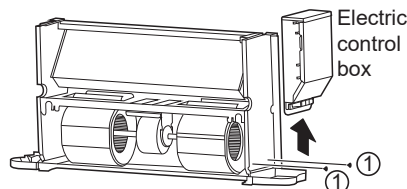

Figure 4-7 Removing the electric control box
- f) As shown in Figure 4-7, remove screws ①*2 to remove the electric control box.